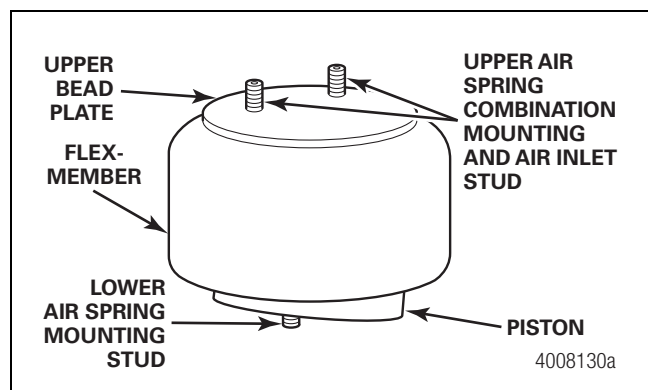

Figure 4.2
5. Check for leaks in the air lines, at the air spring upper bead plate, piston and mounting studs. Figure 4.2. Replace leaking air lines, fittings or air springs. Refer to Section 5.